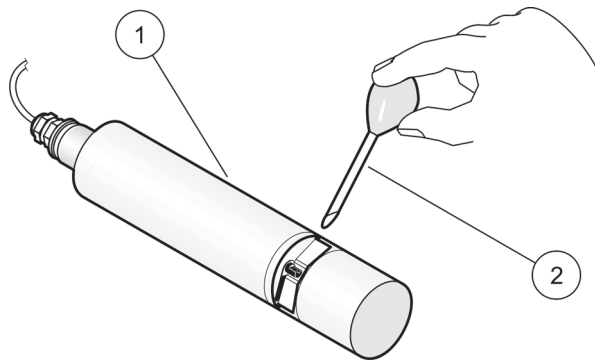

Figure 2 Check the calibration (tank version)
9. **Tank version:** Remove sensor from the tank, rinse the measuring path with water and fill it with standard solution (pipette), see Figure 2 on page 15.